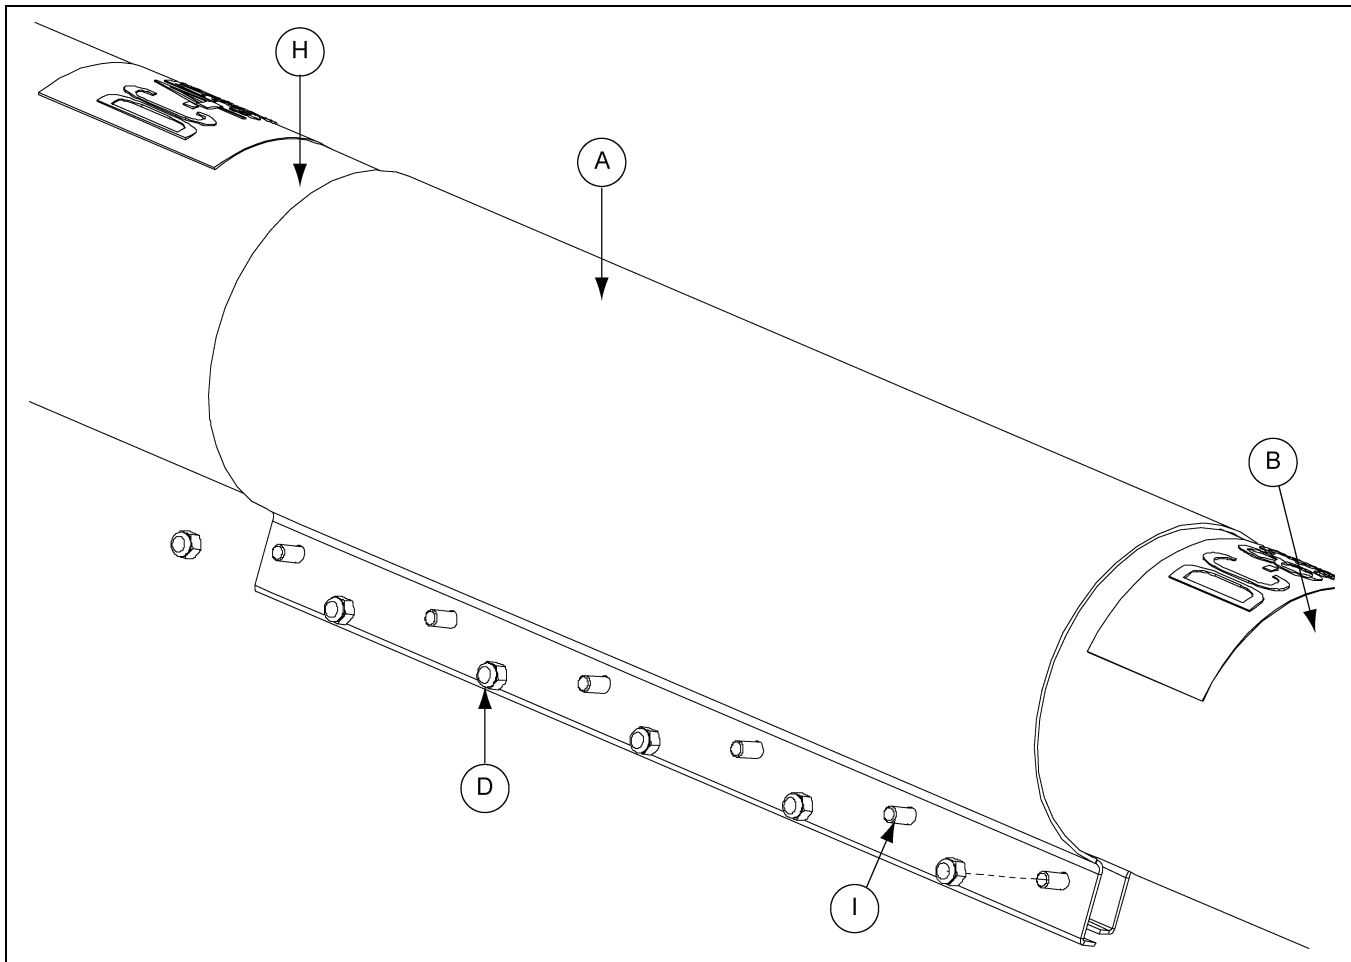

Figure 4D
4. Slide the extension connecting band (A) over the two (2) sections of tube (H), making sure the connecting band (A) is centered over the mated surfaces of the tubes (H). Tighten the connecting band (A) down using the correct hex bolts (D) and nylock nuts (I). (*See Chart* and *See Figure 4D.*)